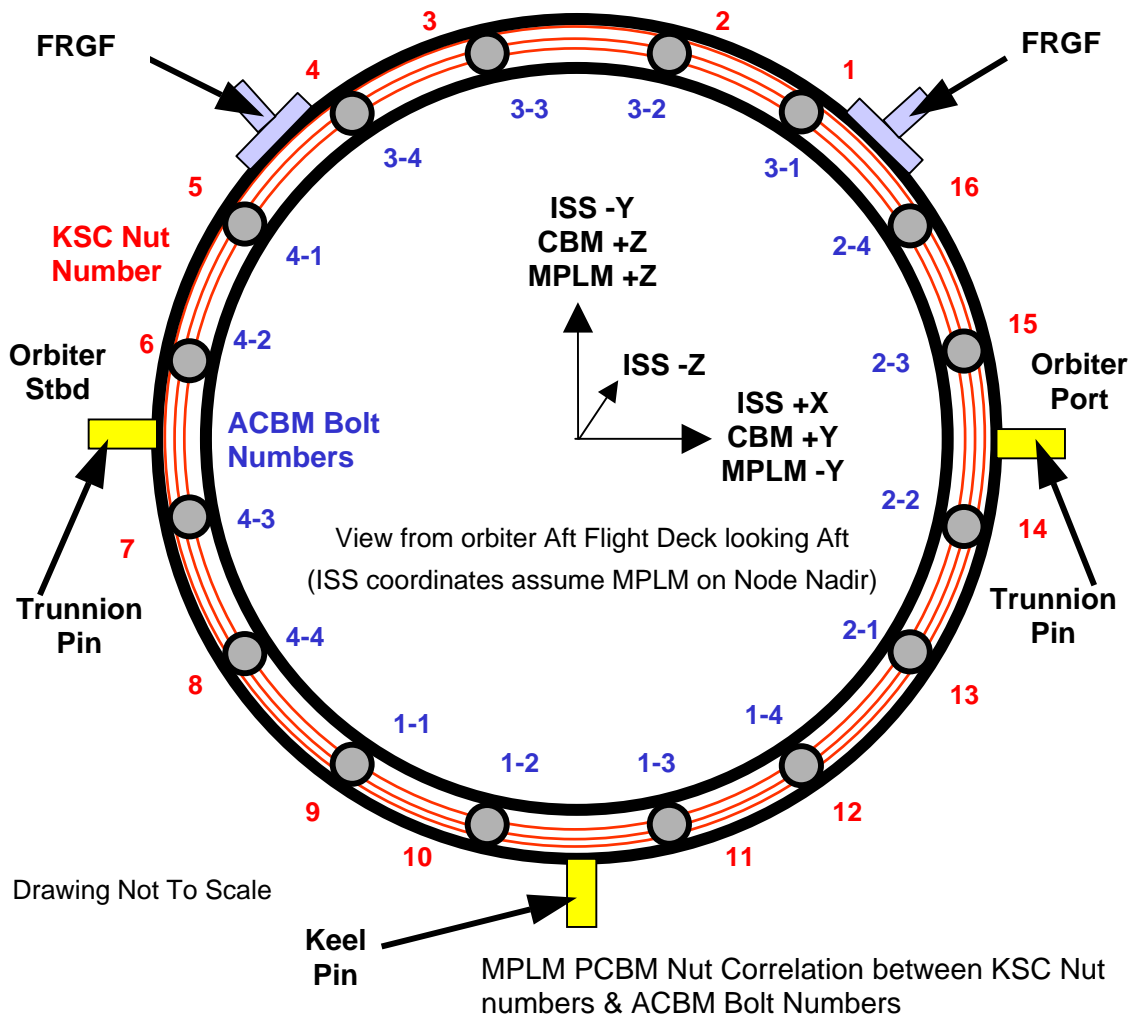

Figure 4.- MPLM Passive CBM as Viewed from the Shuttle Aft Flight Deck.
2. If FOD found on MPLM PCBM, refer to Figure 4 for location description and corresponding ACBM bolt number.